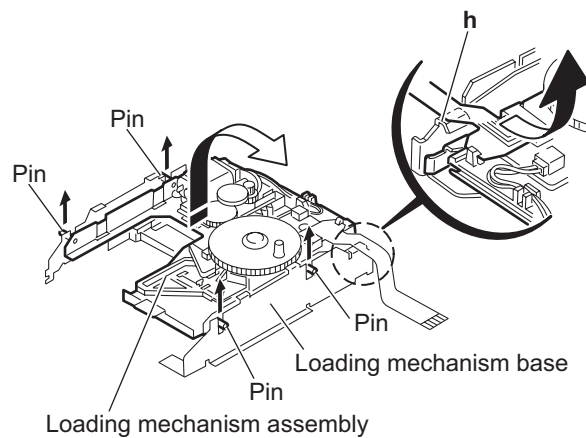

Fig.12
3.3.7 Removing the loading mechanism assembly (See Fig.12)